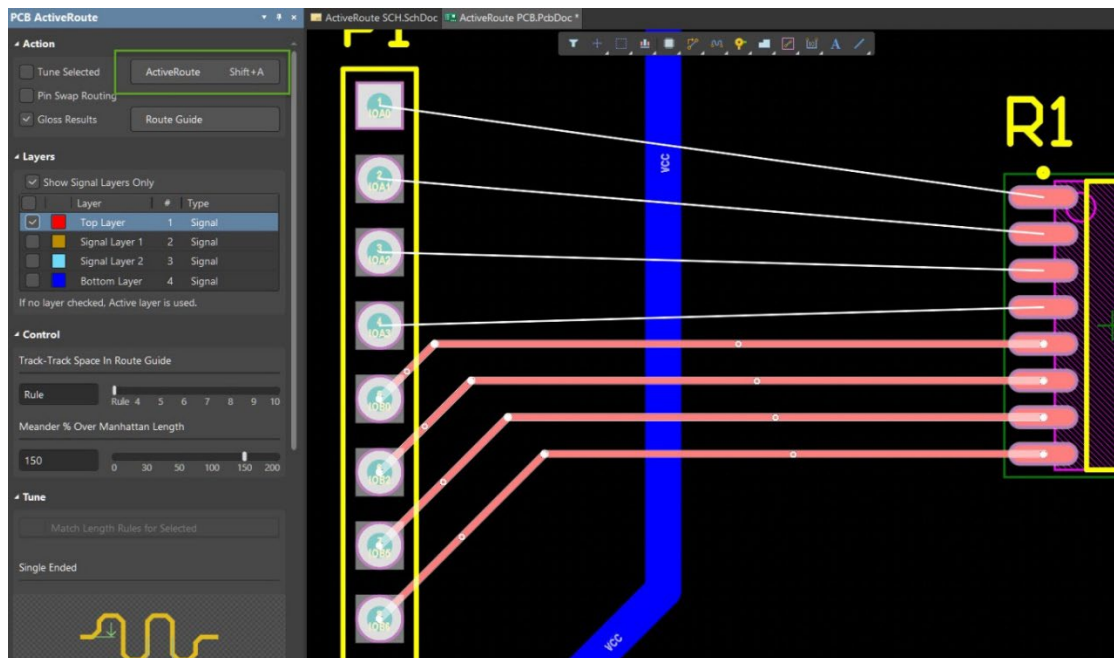

Figure 4. Ready to ActiveRoute the remaining P1 nets
11. Click on the `P1nets` net class, making sure the **Select** check box is checked. This selects the entire group of nets. The highlighting should resemble what is found in Figure 4.